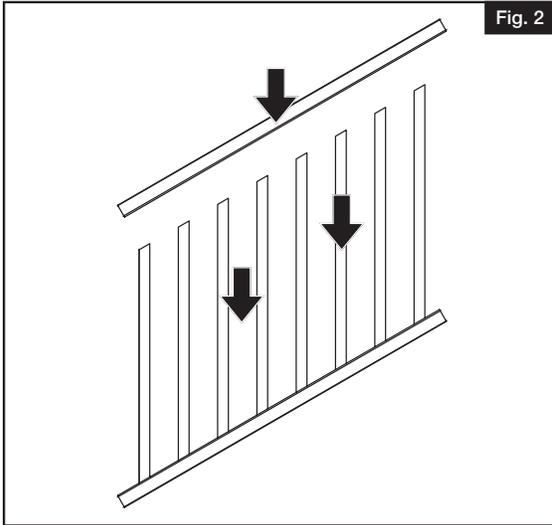

Fig. 2
- b. Assemble your stair railing section by snapping balusters into bottom rail (Fig. 2)